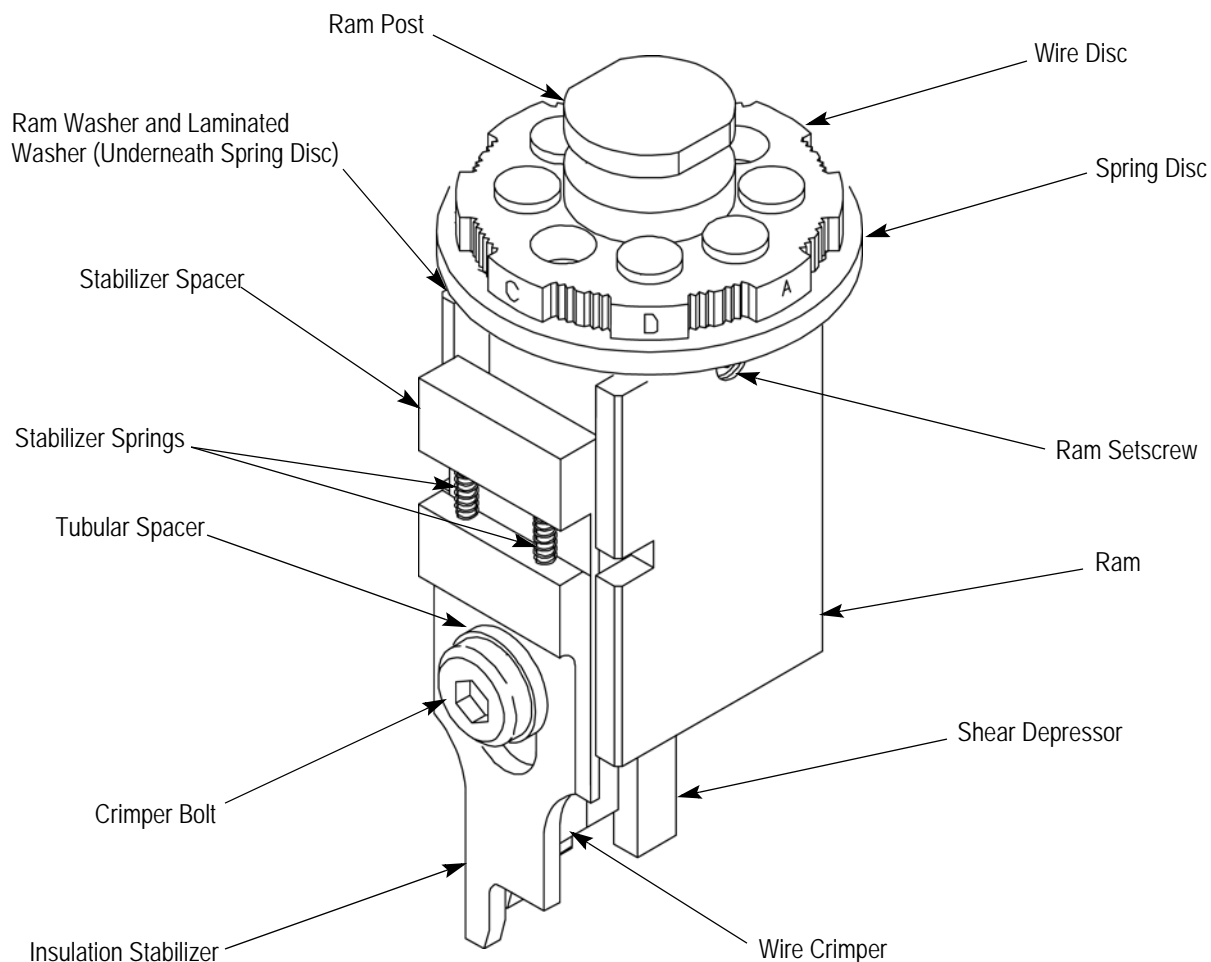

Figure 3
The applicator ram (Figure 3) supports the upper tooling which is the wire crimper, insulation stabilizer, and shear depressor. The wire crimper and insulation stabilizer, with crimper spacer between are attached to the ram by the crimper bolt and tubular spacer. The insulation stabilizer is free-floating and is spring-loaded downward. This allows upward movement as it contacts the terminal insulation on the downward stroke of the ram, thus holding the terminal in position on the anvil during crimping, and the shearing of the carrier strip. The shear depressor is attached to the back of the ram.
5.1. Crimp Height Adjustment (Figure 3)
7.1. Wire Crimper Replacement (Figure 3)
7.4. Adjustable Crimp Height Repair (Figure 3)